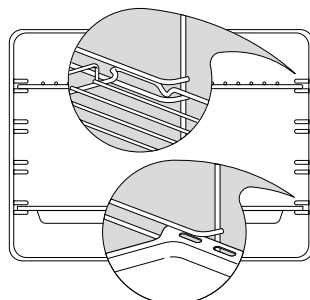

Fig. 28b Correct position of shelves and pan (models with side racks)
- **In models with side racks,** put in the shelves and trays. If you are not using the sliding shelf supports, then slide in the shelves and grill pan as shown in Fig 28b. Fit them between the metal runners, with the safety stop notch down and at the back. If the shelf supports are not already fitted, see 'Care and cleaning' for how to do this.